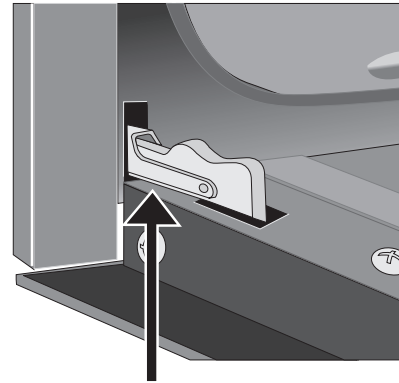
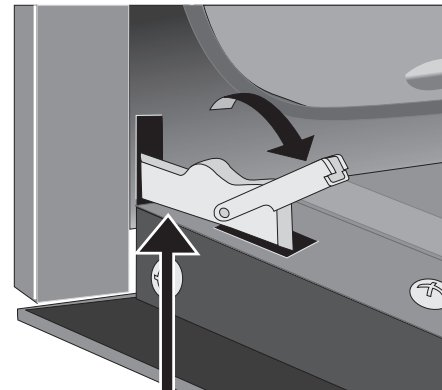

Figure 22: Door hinge locked
Figure 23: Unlocking door hinge
2. Pull up the lock located on each hinge support toward front of the oven until the lock stops. You may have to apply a little upward pressure on the lock to pull it up (Figure 22 and Figure 23).
4. Push the door hinge locks up toward and into the oven frame on both left and right oven door hinges to the locked position (Figure 22 and 23).